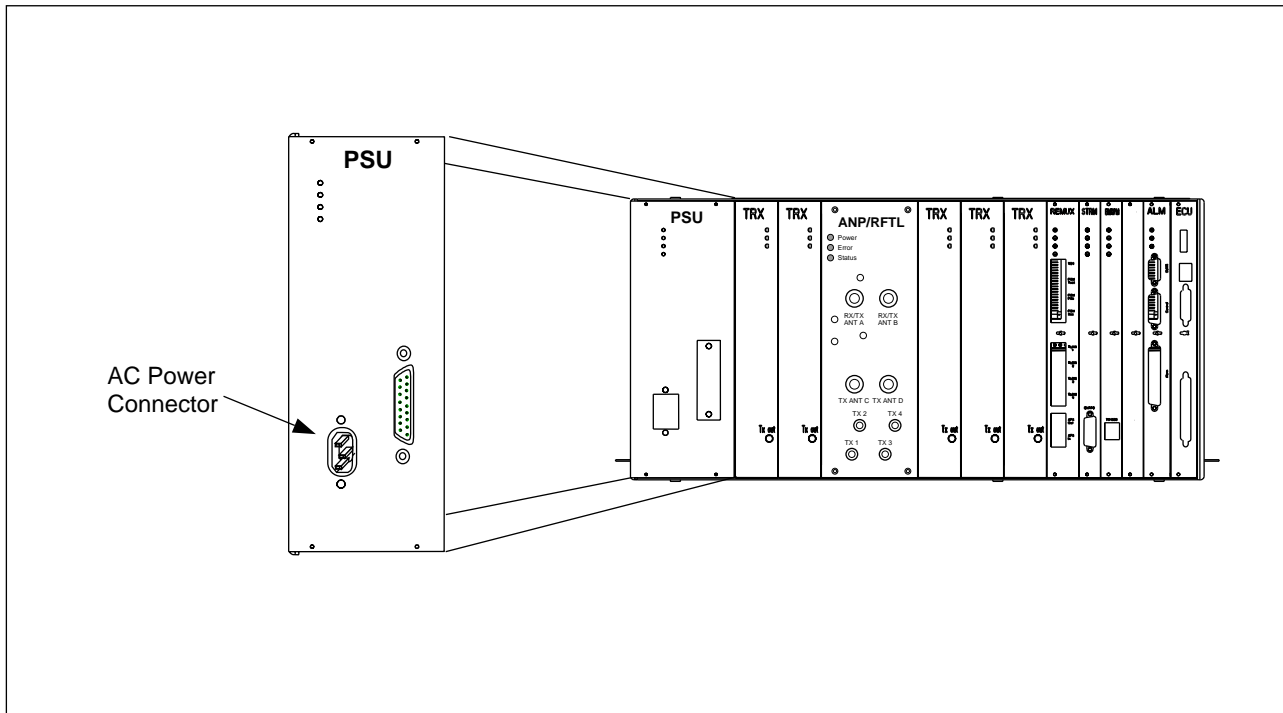

Figure 5-10. The Power Unit
6. Locate the PSU shown in Figure 5-10 on page 5-19.